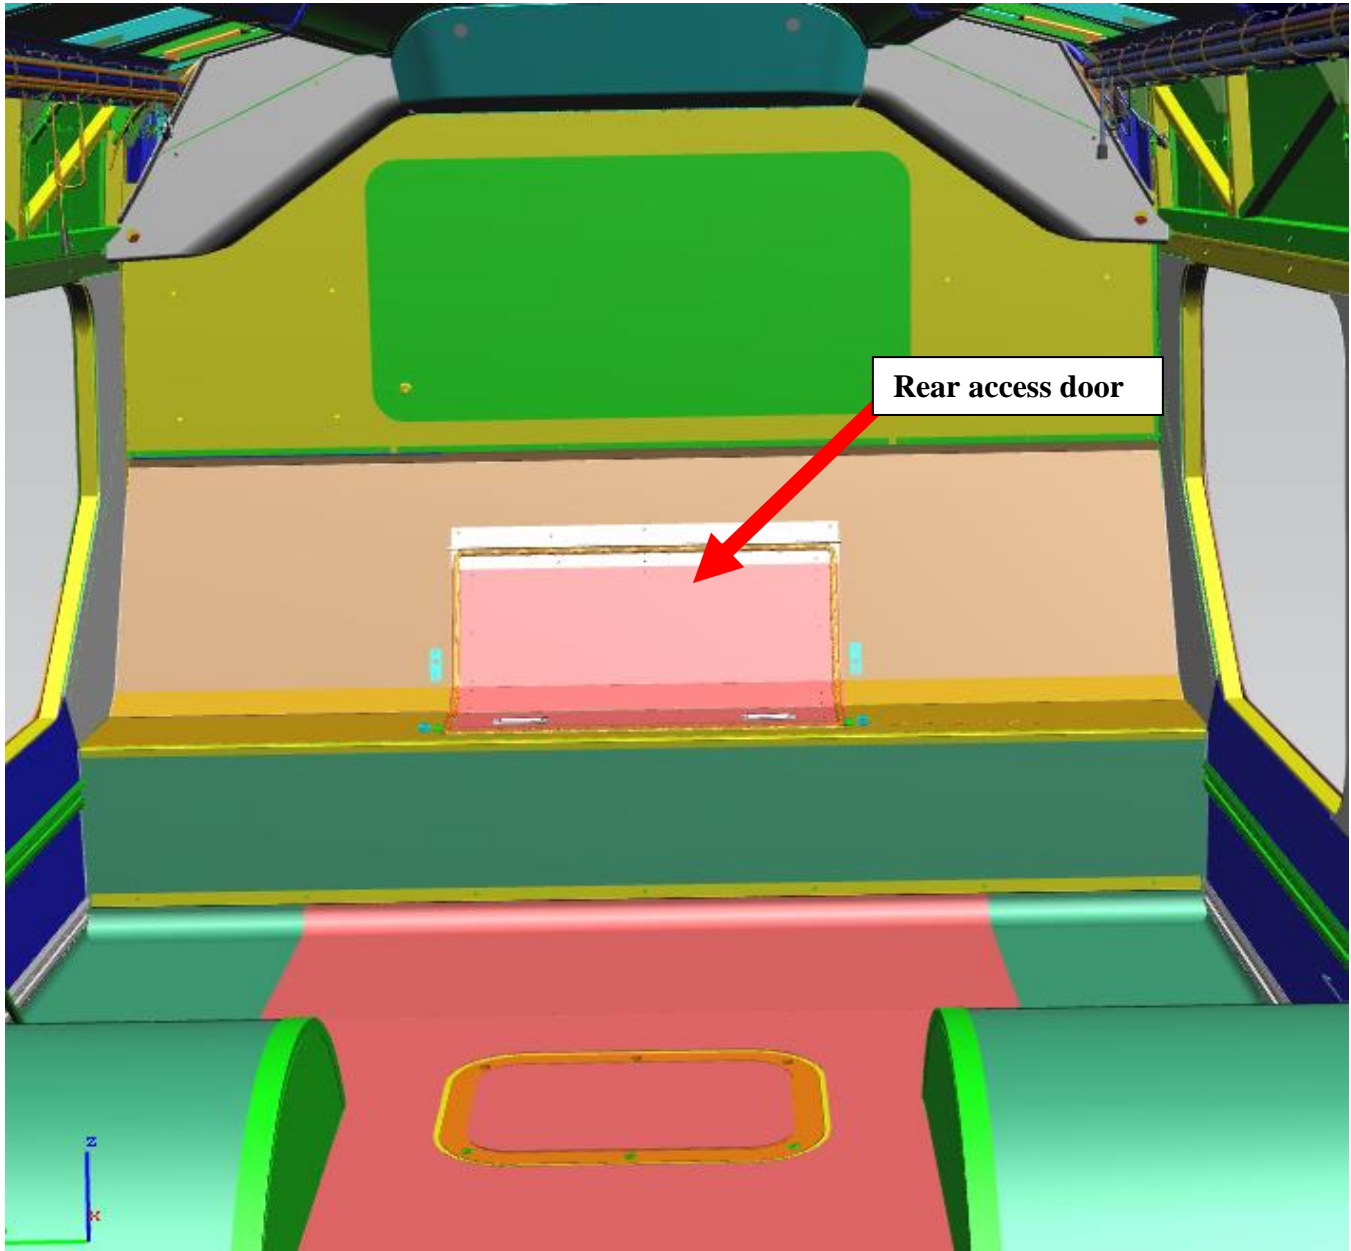

Figure 5: Rear interior of bus
2. Open rear access panel to access engine compartment. See figure 5.
- b) Use the hose bracket P/N: (437556) as a template and drill 2 new holes through the bottom holes as indicated in figure 5 with a #7 drill bit. See figures 12 and 14.